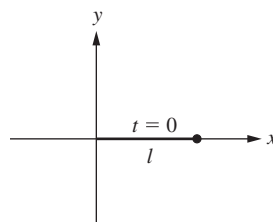

Figure P6.1 Rotating one-link robot starting at $\theta = 0^\circ$.
- 6-1.** The tip of a one-link robot is located at $\theta = 0$ at time $t = 0$ s as shown in Fig. P6.1. It takes 4 s for the robot to move from $\theta = 0$ to $\theta = 2\pi$ rad. If $l = 8$ in., plot the x - and y -components as a function of time. Also find the amplitude, frequency, period, phase angle, and time shift.